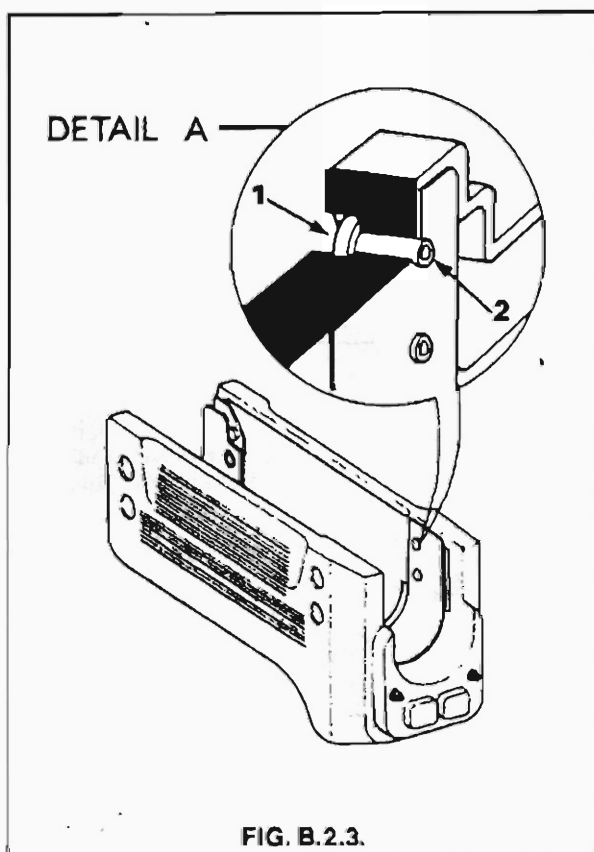

FIG. B.2.3.
1. Using a 4.00 mm twist drill, remove the heads of loose rivets of handguard. Using a hammer and a suitable punch, remove loose rivets stems. When replacing rivets ensure that rivets are formed in accordance with detail "A" of Fig. B.2.3.